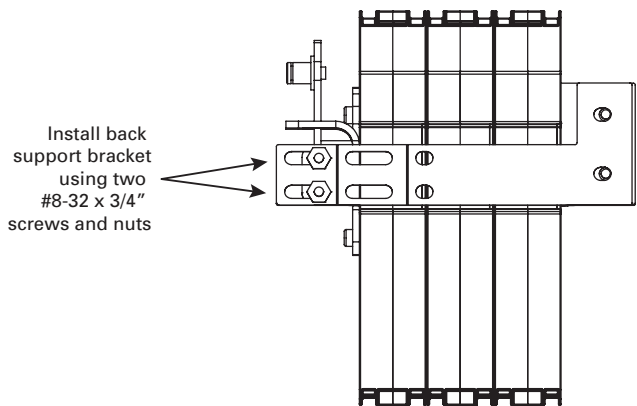

Fig. 2-4. Mount back support bracket to mechanism frame.
- Back support bracket to mechanism frame using two #8-32 nuts and two #8-32 x 3/4" screws (see Fig. 2-4) and tighten.